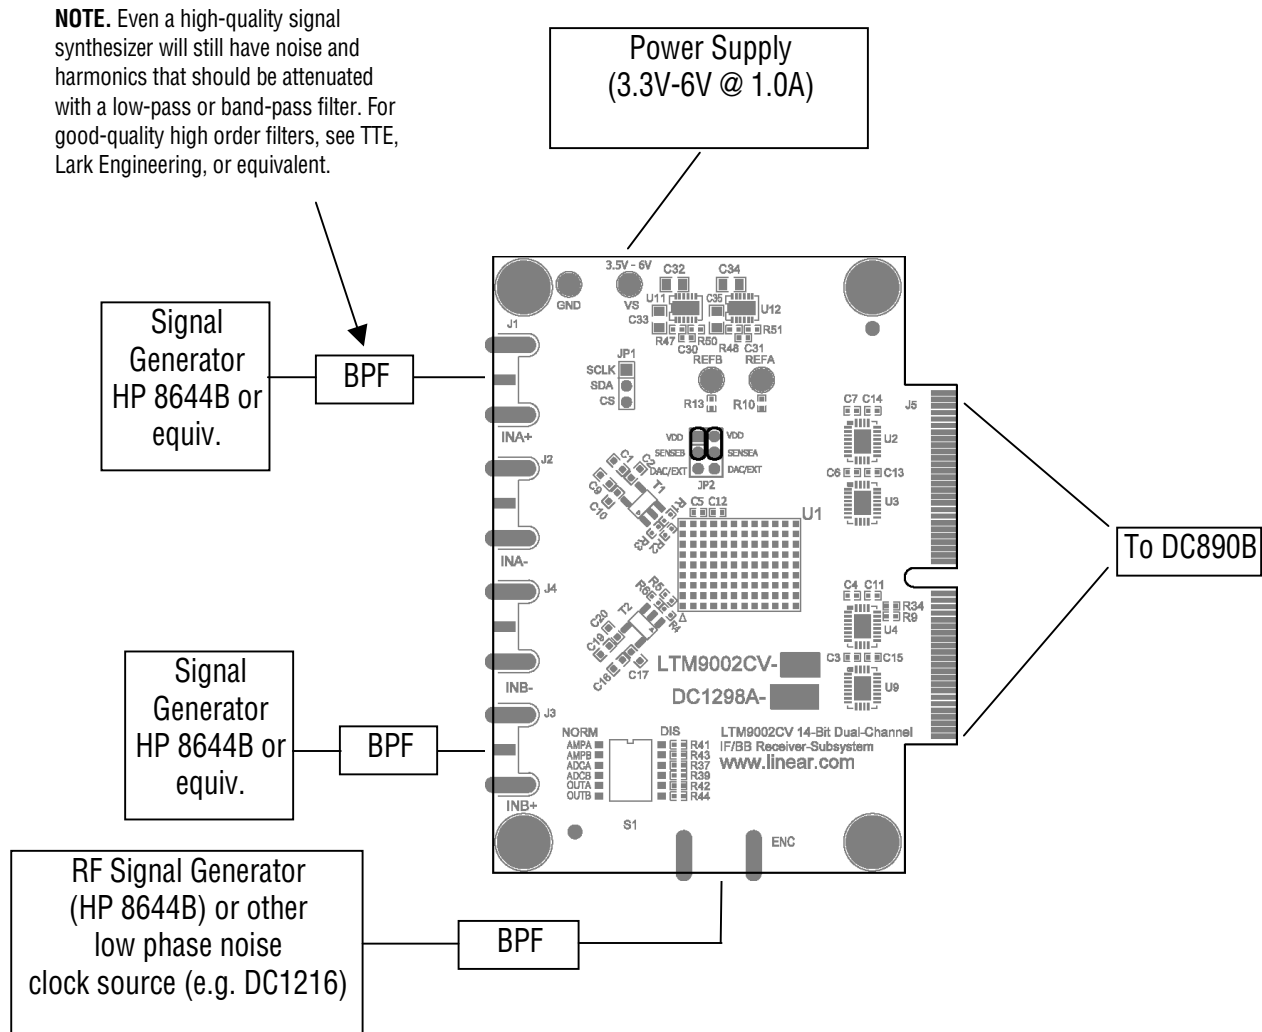

Figure 1. Proper Measurement Equipment Setup
Validating the performance of the LTM9002 is simple with DC1298, and requires only two input sources, a clock source, a computer, and a lab power supply. Refer to Figure 1 for proper board evaluation equipment setup and follow the procedure below:
1. Connect the power supply as shown in Figure 1. There is an on-board low-noise voltage regulator that provide the four supply voltages for the DC1298. The entire board and all components share a common ground. The power supply should be a low-noise lab power supply capable of supplying at least 1 Amp.